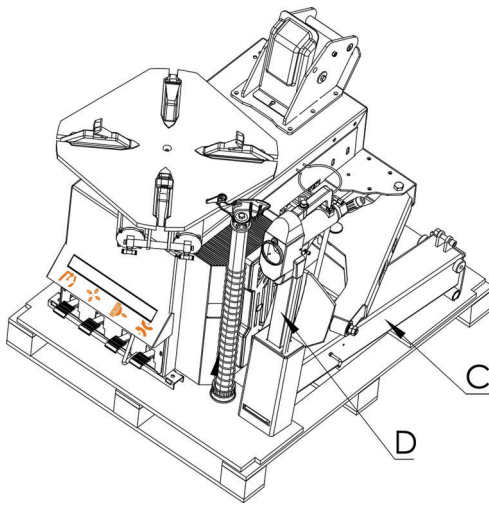

Fig.5
- Move the column C and arm D, put them on a soft cushion.(Fig.5)